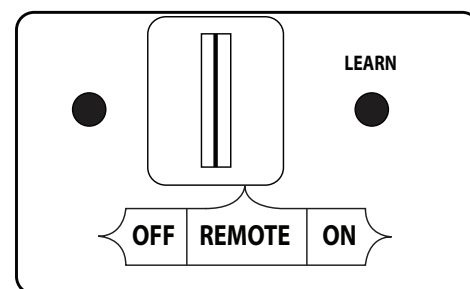

Fig. 29-2 Remote receiver (OFF for Manual Light)
1. Ensure the pilot is burning. locate the 3-position switch on the remote receiver (see Fig. 29-2), and slide the switch to the **OFF** position.